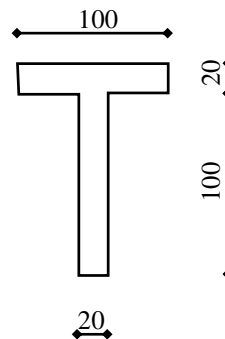

Fig. 2
- b) A beam with a cross section as shown in figure 2 is simply supported and carries a bending moment of 6kNm.